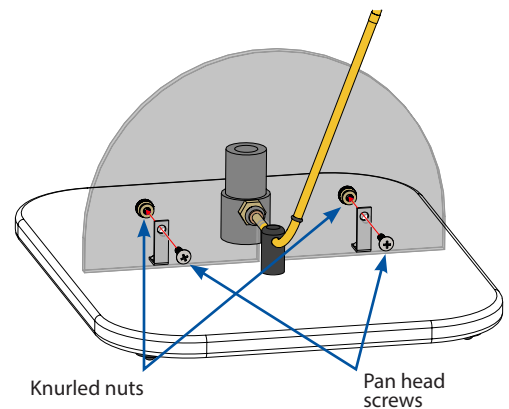

Figure 2
2. Align the two predrilled holes in the angle plate with the hole of each angle bracket (Figure 2). From the front, insert one pan head screw through each hole in the angle plate and brackets. On the back side of the bracket, start one knurled nut onto each of the two protruding screws. Be sure that the smooth portion of each nut is toward the angle plate. Hand-tighten the nuts to secure the angle plate to the brackets. Do not overtighten.